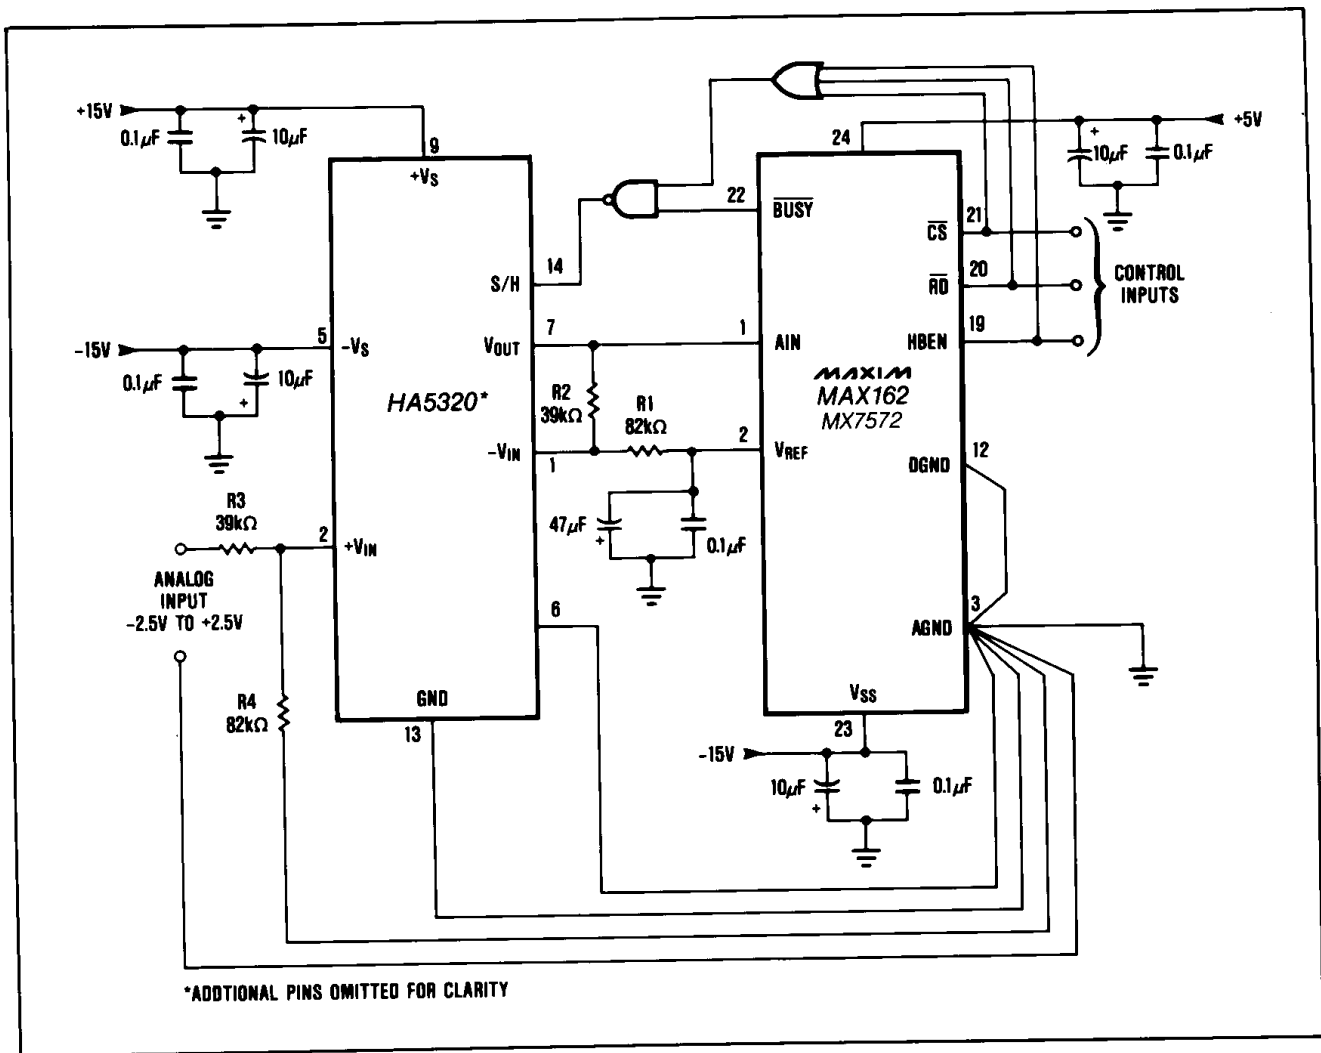

Figure 16. MAX162/MX7572—HA5320 Sample-and-Hold Interface
**MAX162** Figure 16 shows the MAX162 to HA5320 interface. The maximum sampling rate is 210kHz with a 4MHz clock which allows for a 1.5µs acquisition time. The HA5320 can also be replaced by a HA5330 for higher throughput.